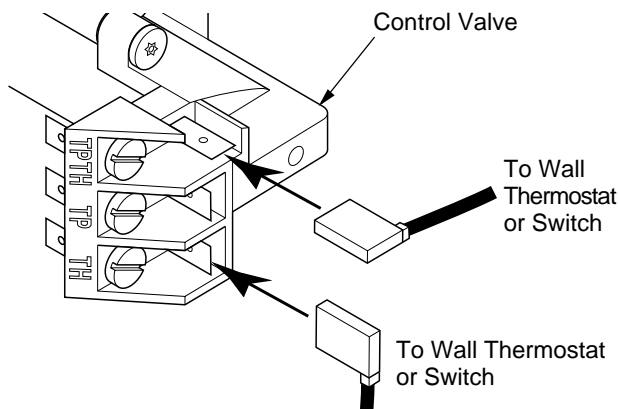

Figure 31 - Connecting Wire Terminals
NOTICE: Most building codes do not permit concealed gas connections. A flexible gas line is provided to allow accessibility from the fireplace (see Figure 31). The flexible gas supply line connection to the equipment shutoff valve should be accessible.
2. Connect one terminal of 25 ft. wire to the "TH" terminal on the control valve. Connect the other terminal to the "THTP" terminal on the control valve. See Figure 31.